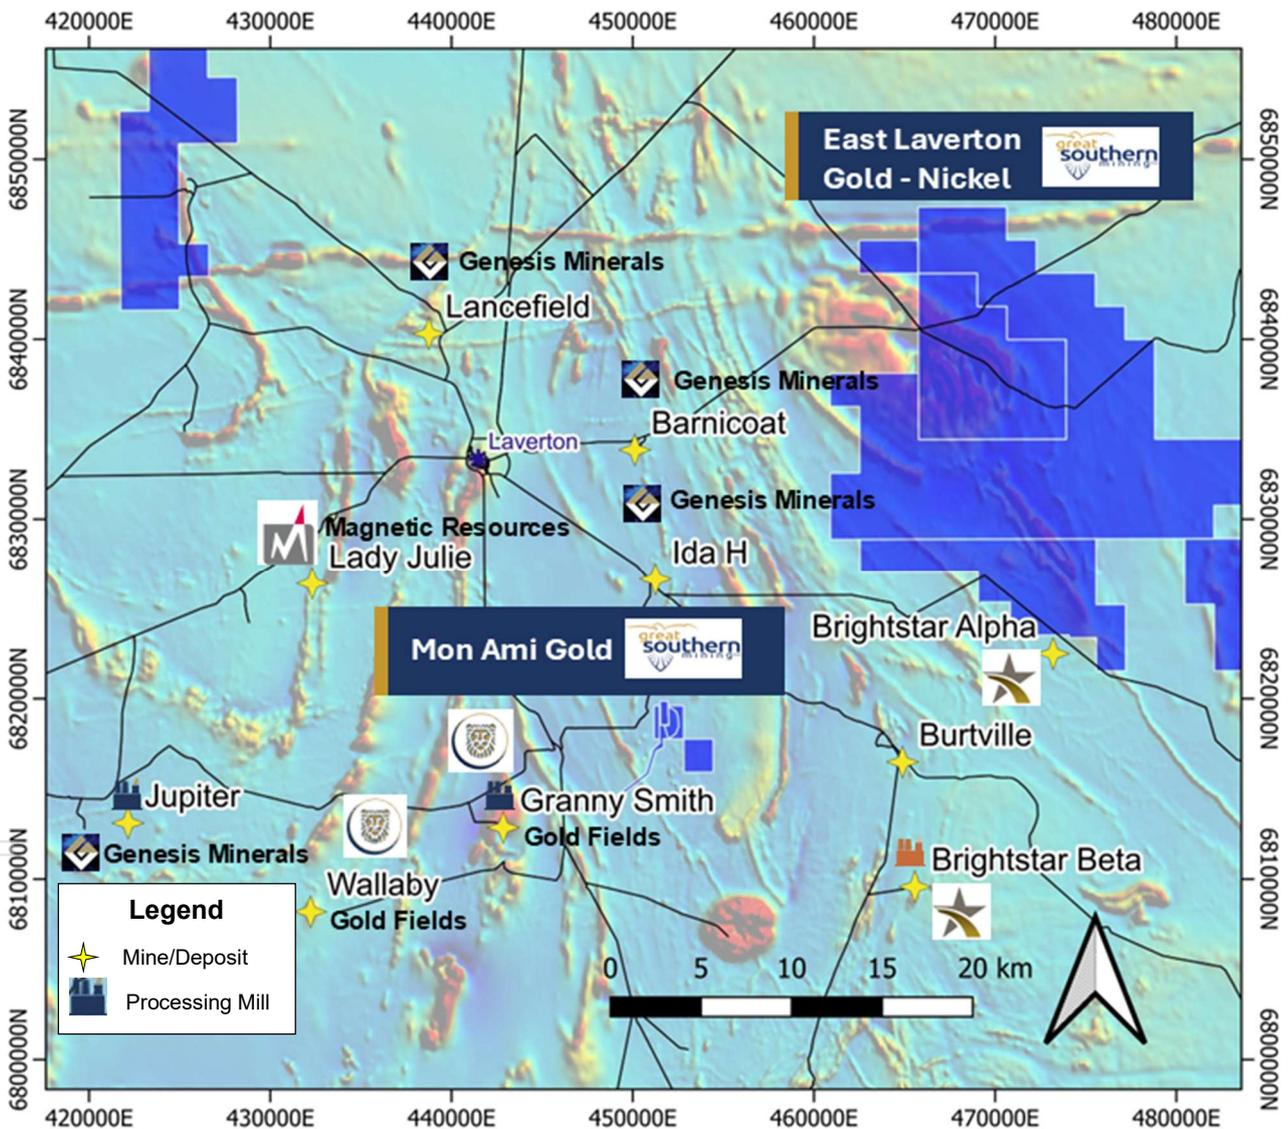

Figure 1. Mon Ami Project (blue shading) showing proximity to significant gold deposits and operating gold processing facilities.
- **GSN considers the most applicable analogue for the depth potential of Mon Ami to be the Ida H deposit (owner Genesis Minerals)**, located just 8km north of Mon Ami (Figure 1) along the Barnicoat Shear. The Ida H deposit was one of the highest-grade mines in the Laverton District and produced 229,900t at 22.6 g/t Au for 170,650 oz in the early 1900's from underground mining down to ~450m vertical depth
Great Southern Mining Limited (the Company) (ASX: GSN) is pleased to provide an update on the Company's 100% owned Mon Ami Gold Project (Mon Ami), located 17km south-east of Laverton and 10km north-east of the +2Moz Granny Smith gold mine in Western Australia (Figure 1).
GSN considers the most applicable analogue for the depth potential of Mon Ami to be the Ida H deposit, located just 8km north of Mon Ami (Figure 1) along the Barnicoat Shear. Ida H was one of the highest-grade mines in the Laverton District and produced 229,900t at 22.6 g/t Au for 170,650 oz in the early 1900's³ from underground mining down to ~450m vertical depth. Similar to Mon Ami, Ida H mineralisation is hosted in pinching and swelling quartz-sulphide veins plunging in a northern direction within the Barnicoat Shear zone.